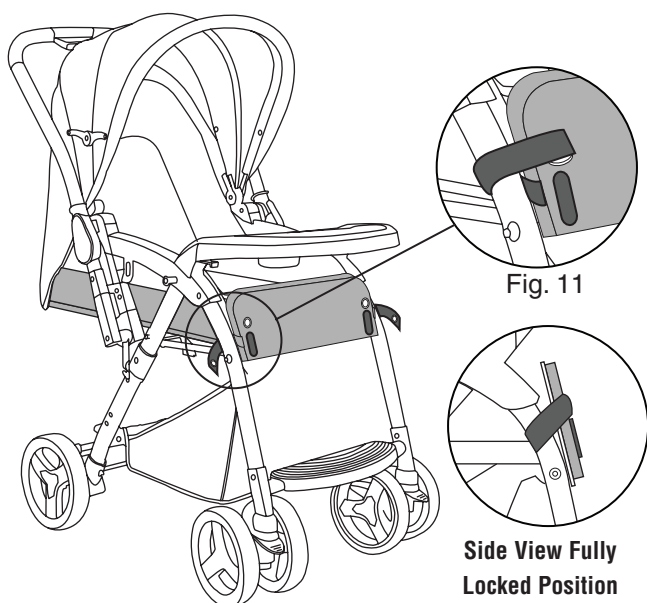

Fig. 11
- When using the leg rest in an upright position, make sure both side straps are looped around the stroller's side frame and fully secured with snaps onto the bottom leg rest. (Fig. 11)